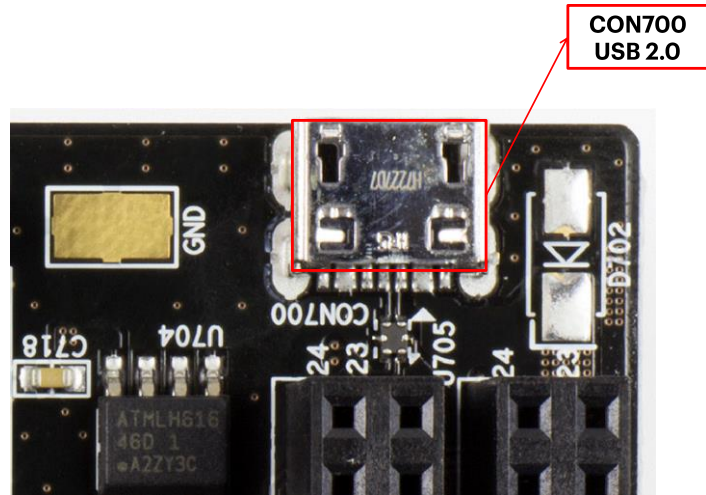

Figure 6. USB 2.0 interface connector location
- Figure 6. USB 2.0 interface connector location 10